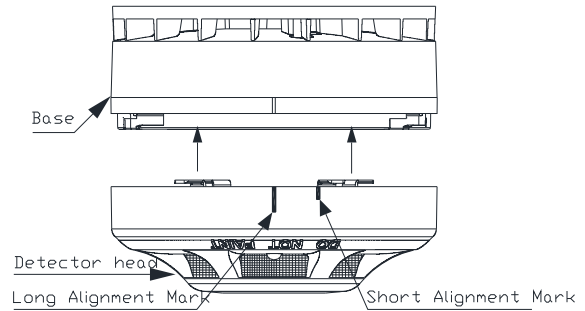

**Fig. 2: 683 audio/visual alarm base jumper and volume settings**
- For 683-001 ~ 683-006 (used with non-addressable detectors), fit jumper T1 as shown in Fig. 2.
- Fit the jumper T2 to select the tone signal for the audible alarm, as shown in Fig. 2.
- For audio alarm bases, adjust the volume control for the required audible level, as shown in Fig. 2.